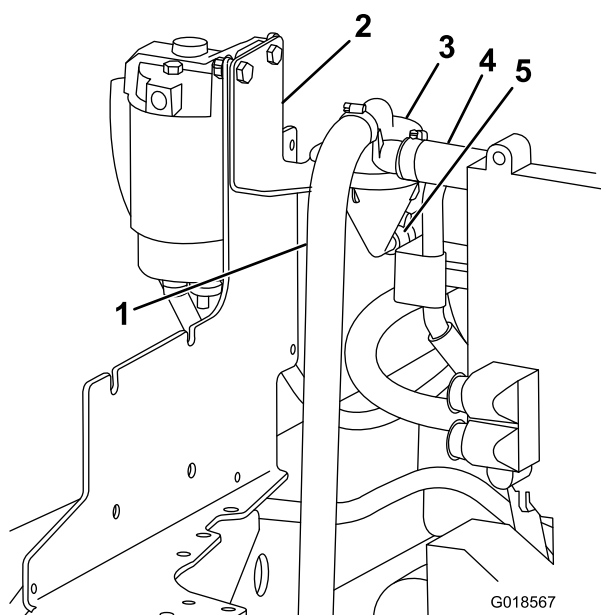

Figure 1
1. Disconnect the breather hose and the oil-return hose from the existing breather (Figure 1).
2. Remove the breather bracket and breather (with the vent hose attached) from the machine and discard them (Figure 1).